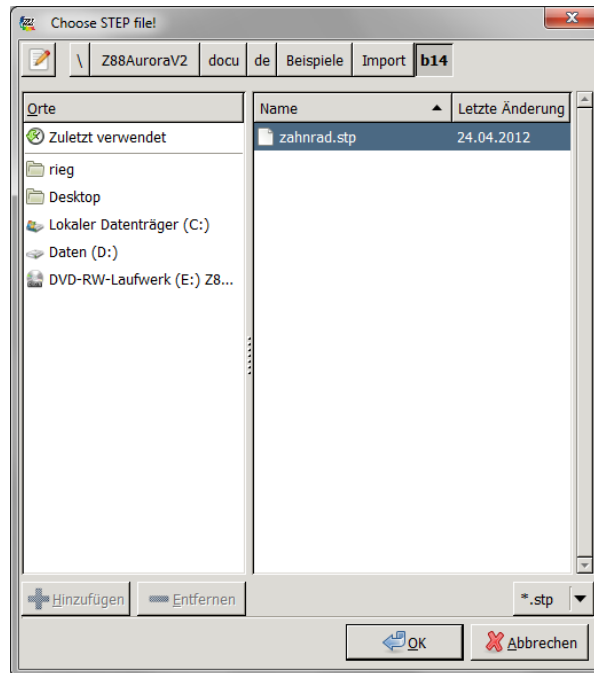

Figure 21: Importing STEP files
2. In Z88Aurora select *File > Import > STEP data*. In the subsequent selection box you can only select STEP files. Therefore select the desired file (Figure 21).